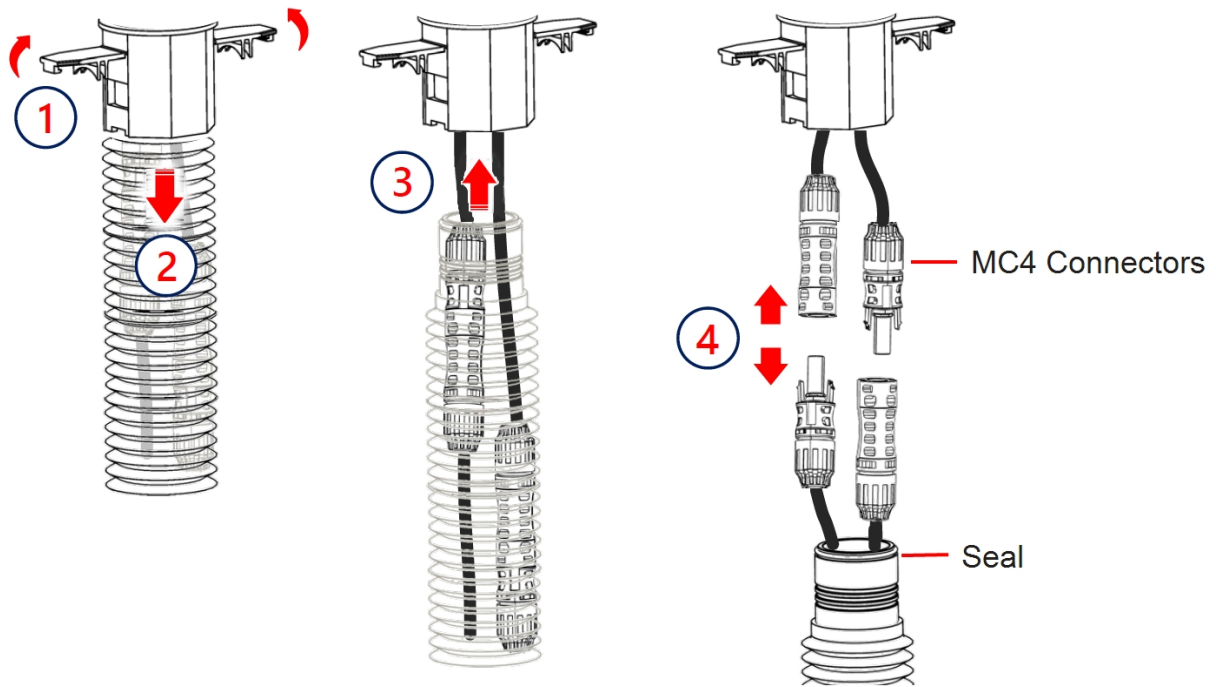

Figure 3: Removal of the Corrugated Conduit
4. Unlock the Corrugated Conduit on the Synergy Unit side (See *Figure 3* - step 1).
5. Disconnect the Corrugated Conduit from the Synergy Unit (See *Figure 3* - step 2).
6. Separately, pullout each of the MC4 connectors from within the Corrugated Conduit (See *Figure 3* - step 3).
7. Disconnect the MC4 connectors (See *Figure 3* step 4).
Before connecting the Corrugated Conduit, verify that the seal is in place and correctly seated (See *Figure 3*).
3. Plug the MC4 connectors on the Synergy Unit side and insert each connector back into the conduit (See *Figure 3* - steps 3 and 4).